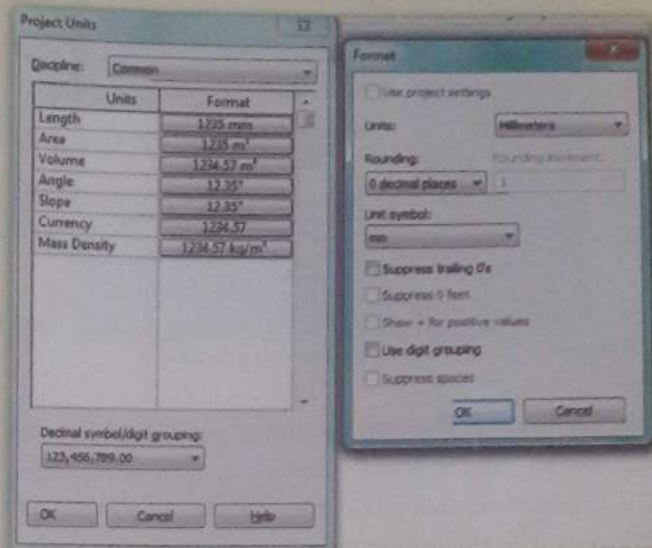

Figure 5: Unit
4. Select the length format: Millimeter. If requires give the Unit Symbol also (Figure 5).